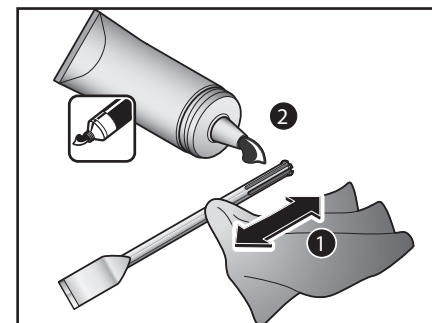

Fig. 6
2. Thoroughly clean the SDS shank of the tool, dry it if necessary and lubricate sufficiently using Vaseline, see Fig. 6.